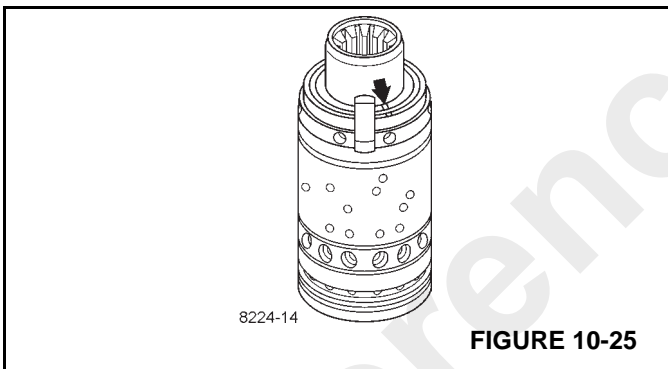

FIGURE 10-25
12. A small mark has been made with a pumice stone on both spool and sleeve close to one of the slots for the neutral position springs (Figure 10-25). If the mark is not visible, remember to leave a mark of your own on sleeve and spool before the neutral position springs are dismantled.
2. Assemble the spool/sleeve and make sure the marks on spool and sleeve are opposite each other (see Figure 10-25).